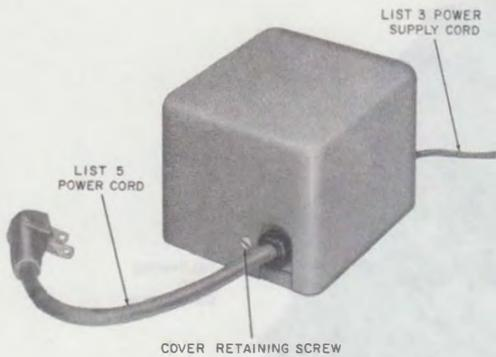

Fig. 3—Power Supply
2.03 Cord connections are required between the telephone set and the *Rapidial* and between the *Rapidial* and the low-voltage power supply. The power supply (List 2) is shown in Fig. 3 and 4.
(2) Carton 2: List 20—Housing ( )
(3) Carton 3 (Fig. 3 and 4):
**3.07** Power supply may be mounted with three No. 6 or 8 wood screws. Two retaining screws hold cover in position (Fig. 3). Power supply cord is fed through cutout in cover and secured under cord clamp.